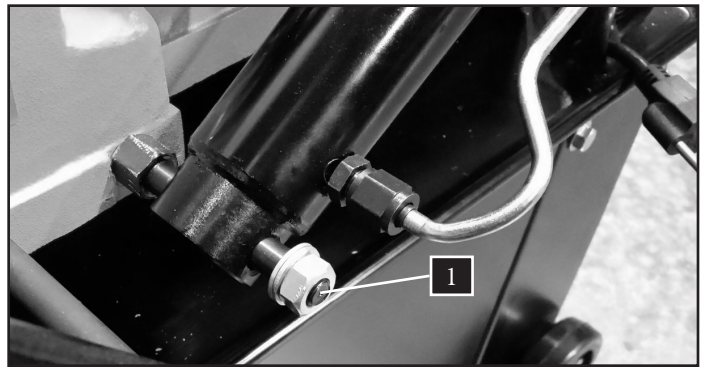

Fig. 4
2. Install the bottom of the hydraulic cylinder onto the rod and secure with the washer and nut (Fig. 4 - 1).